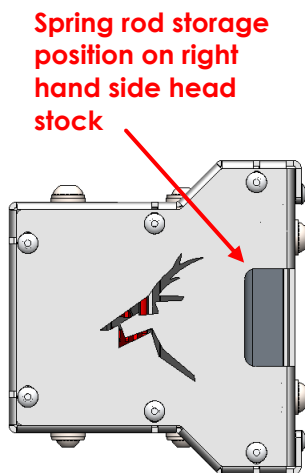

FIG. 5.2.1
- ✓ Remove the spring rod from the backing plate. **Fig. 5.2.1**